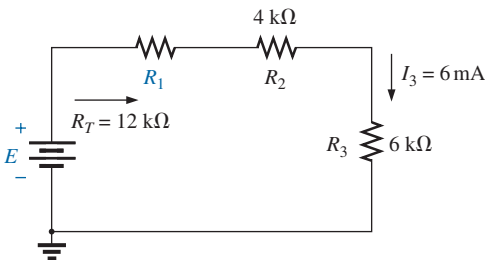

FIG. 5.18
**EXAMPLE 5.6** Given  $R_T$  and  $I_3$ , calculate  $R_1$  and  $E$  for the circuit in Fig. 5.18.